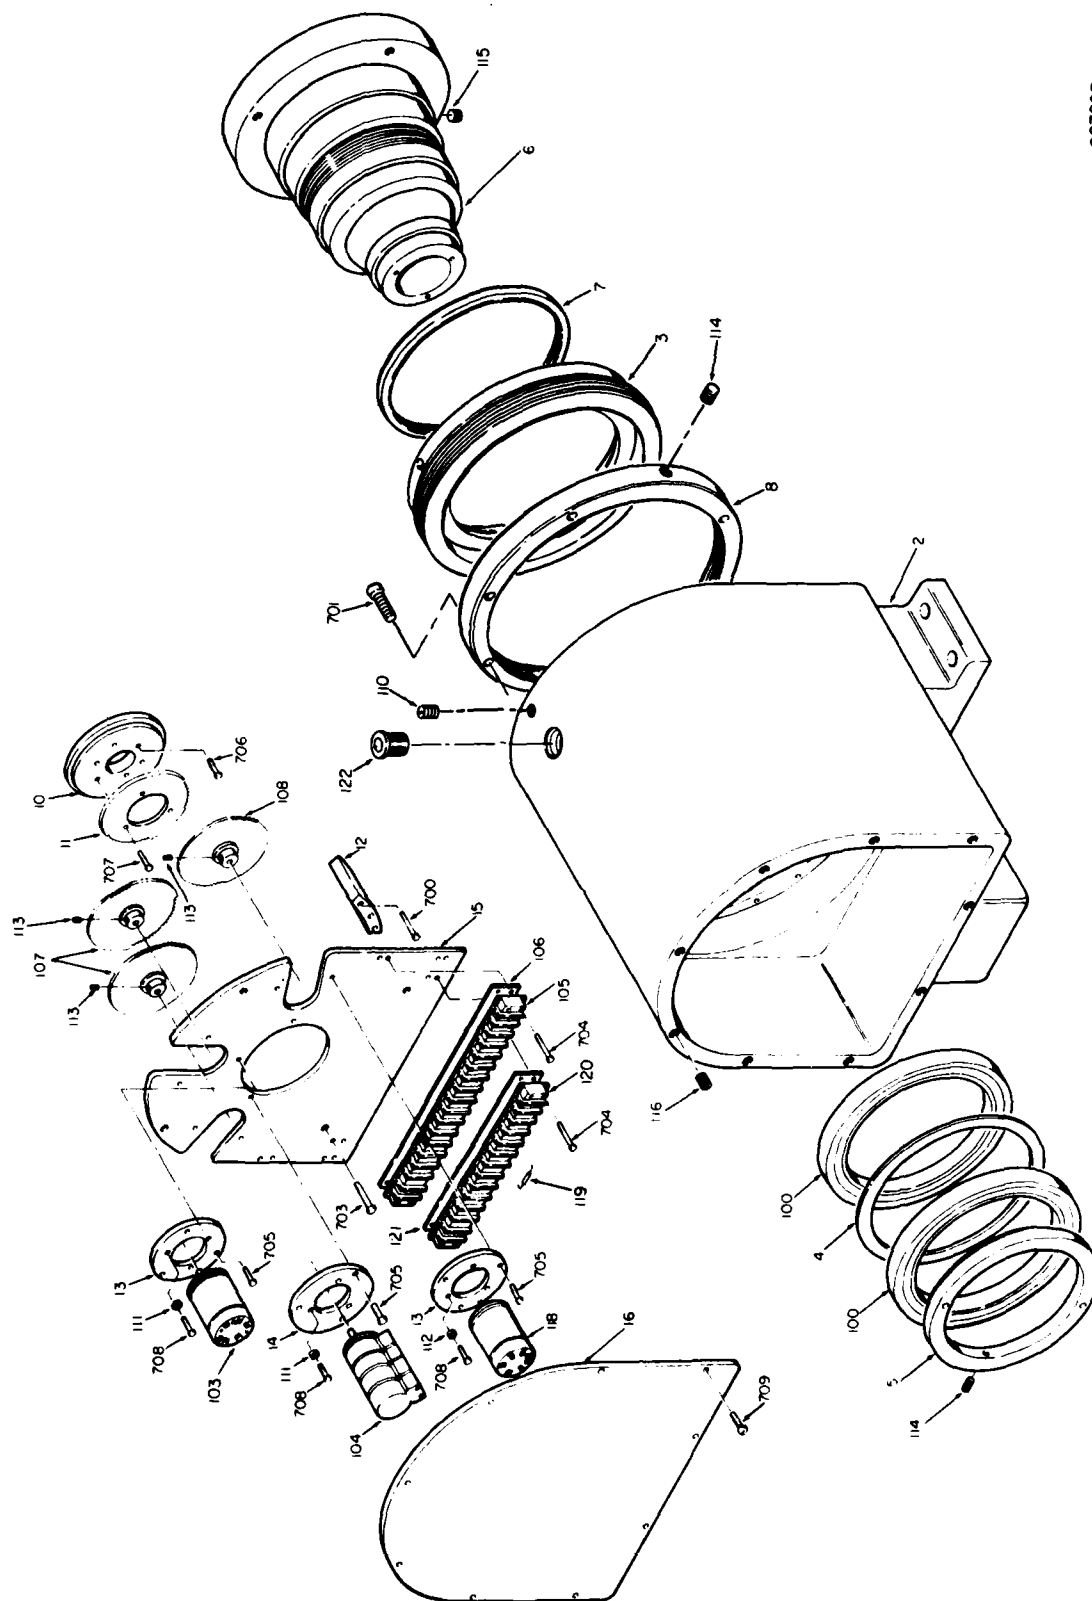
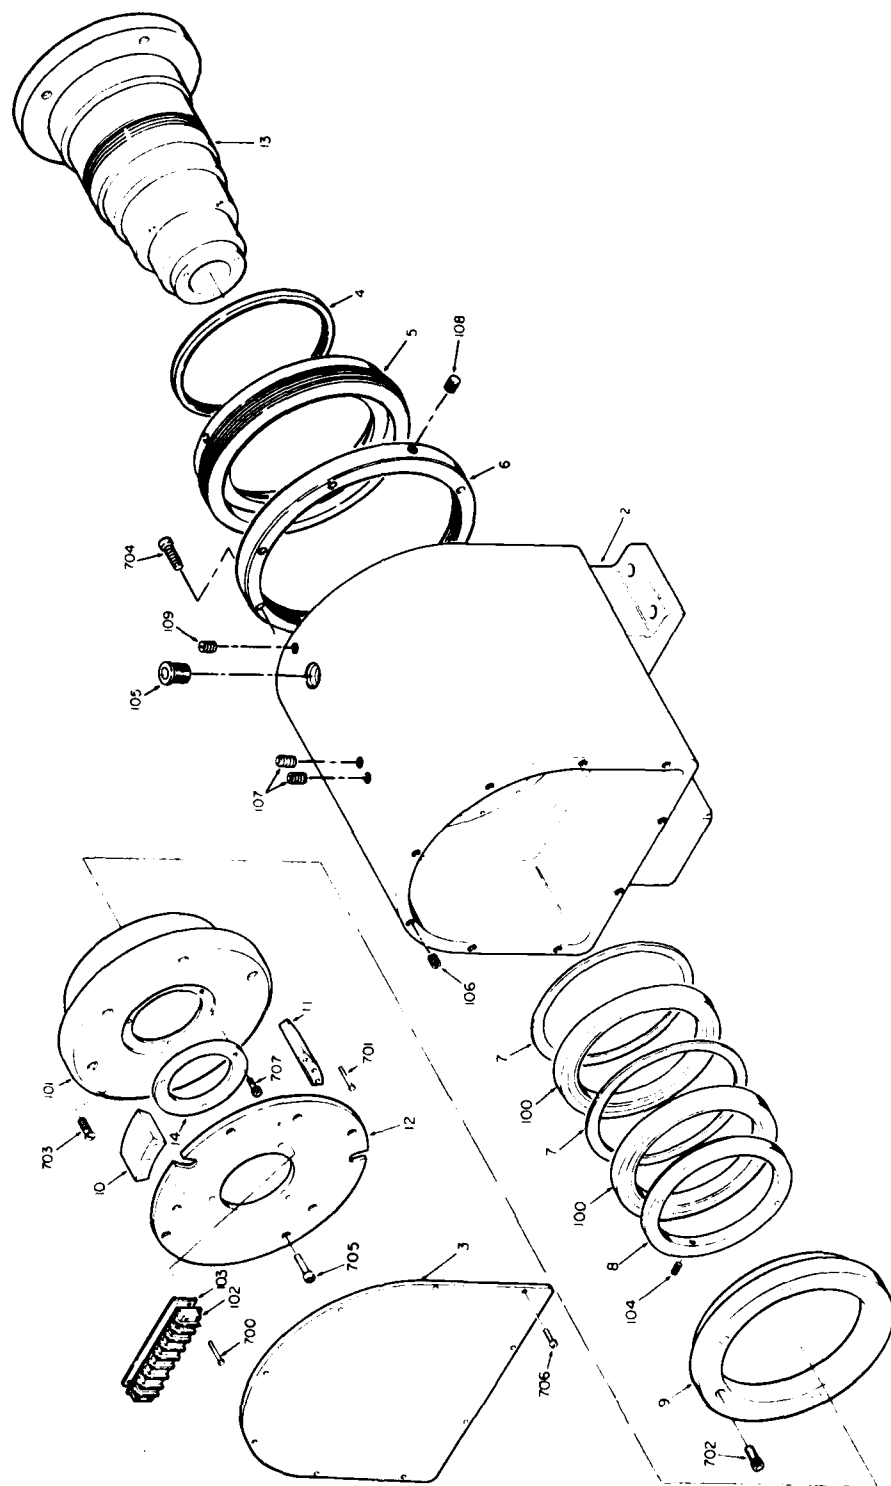

Figure 5.7. Drive Side (Shock Side) Pillow Block
Figure 5.8. Readout Side (Caging Side) Pillow Block
- a. Remove 9 screws (709, Figure 5.7), cover (16) and gasket from pillow block.
- c. Carefully mark orientation of component hub assemblies (107 and 108) with respect to drive gear (11).
- d. Loosen six screws (705) and two circular mounting plates (13).
- e. Remove four screws (703) and component mounting plate (15).
- m. Remove shaft (6, Figure 5.7) from the pillow block.
- n. Remove seal retainer (3) and seal (7).
- o. Remove six screws (701) and retainer (8).
- a. Remove nine screws (706, Figure 5.8), cover (3) and gasket.
- c. Disconnect motor wires connected to TB7 (102).
- d. Remove four screws (705) and mounting plate (12).
- e. Remove four screws (707) and motor retainer (14).
- f. Remove brush blocks and brushes (1 and 2, Figure 5.6) from motor (101, Figure 5.8).
- h. Remove 6 screws (703, Figure 5.8) that fasten motor to pillow block.
- k. Using Figure 5.8 as a reference, remove searchlight, gimbal and shaft from positioner as in steps 5.16.1.f through 5.16.1.n. Do not remove caging disk (7, Figure 5.5) from shaft except for replacement.
- l. Remove four screws (704), seal retainer (5) and seal (4).
- a. Install bearing (100, Figure 5.7), spacer (4), bearing (100) and bearing retainer (5). Using a spanner wrench, turn clockwise until bearing retainer is tight. Tighten setscrew (114).
- b. Install adapter (8) and six screws (701).
- c. Install seal (7) and seal retainer (3).
- d. Install shaft (6), lining up marks made in step 5.16.1.h. If both pillow blocks are being assembled, make sure both shafts are in place before installing gimbal.
- i. Install component mounting plate (15, Figure 5.7) and four screws (703).
- j. Line up reference marks made on hub assemblies (107 and 108) in step 5.16.1.c. Decrease backlash in each component separately at the high spots. Tighten circular mounting plates (13) when the gears are lined up.
- k. Install cover (16), gasket and nine screws (709).
- a. Install adapter (6, Figure 5.8), six screws (704) and setscrew (108).
- b. Install seal (4), seal retainer (5) and four screws (703).
- c. Install spacer (7), bearing (100), spacer (7), bearing (100) and bearing retainer (8). Using a spanner wrench, turn clockwise until retainer is tight. Tighten setscrew (104).
- d. Install bearing retainer (9) and four screws (702).
- e. Using Figure 5.8 as a reference, install searchlight, gimbal and shaft in positioner as in steps 5.17.1.c through 5.17.1.h.
- f. Install motor (101) on shaft (13). Install six screws (703) that fasten motor to pillow block. If keeper was installed, remove it at this time.
- i. Install motor retainer (14, Figure 5.8) and four screws (707).
- j. Pass motor wires through a convenient slot in the component mounting plate and connect wires to correct terminals of TB7 (102).